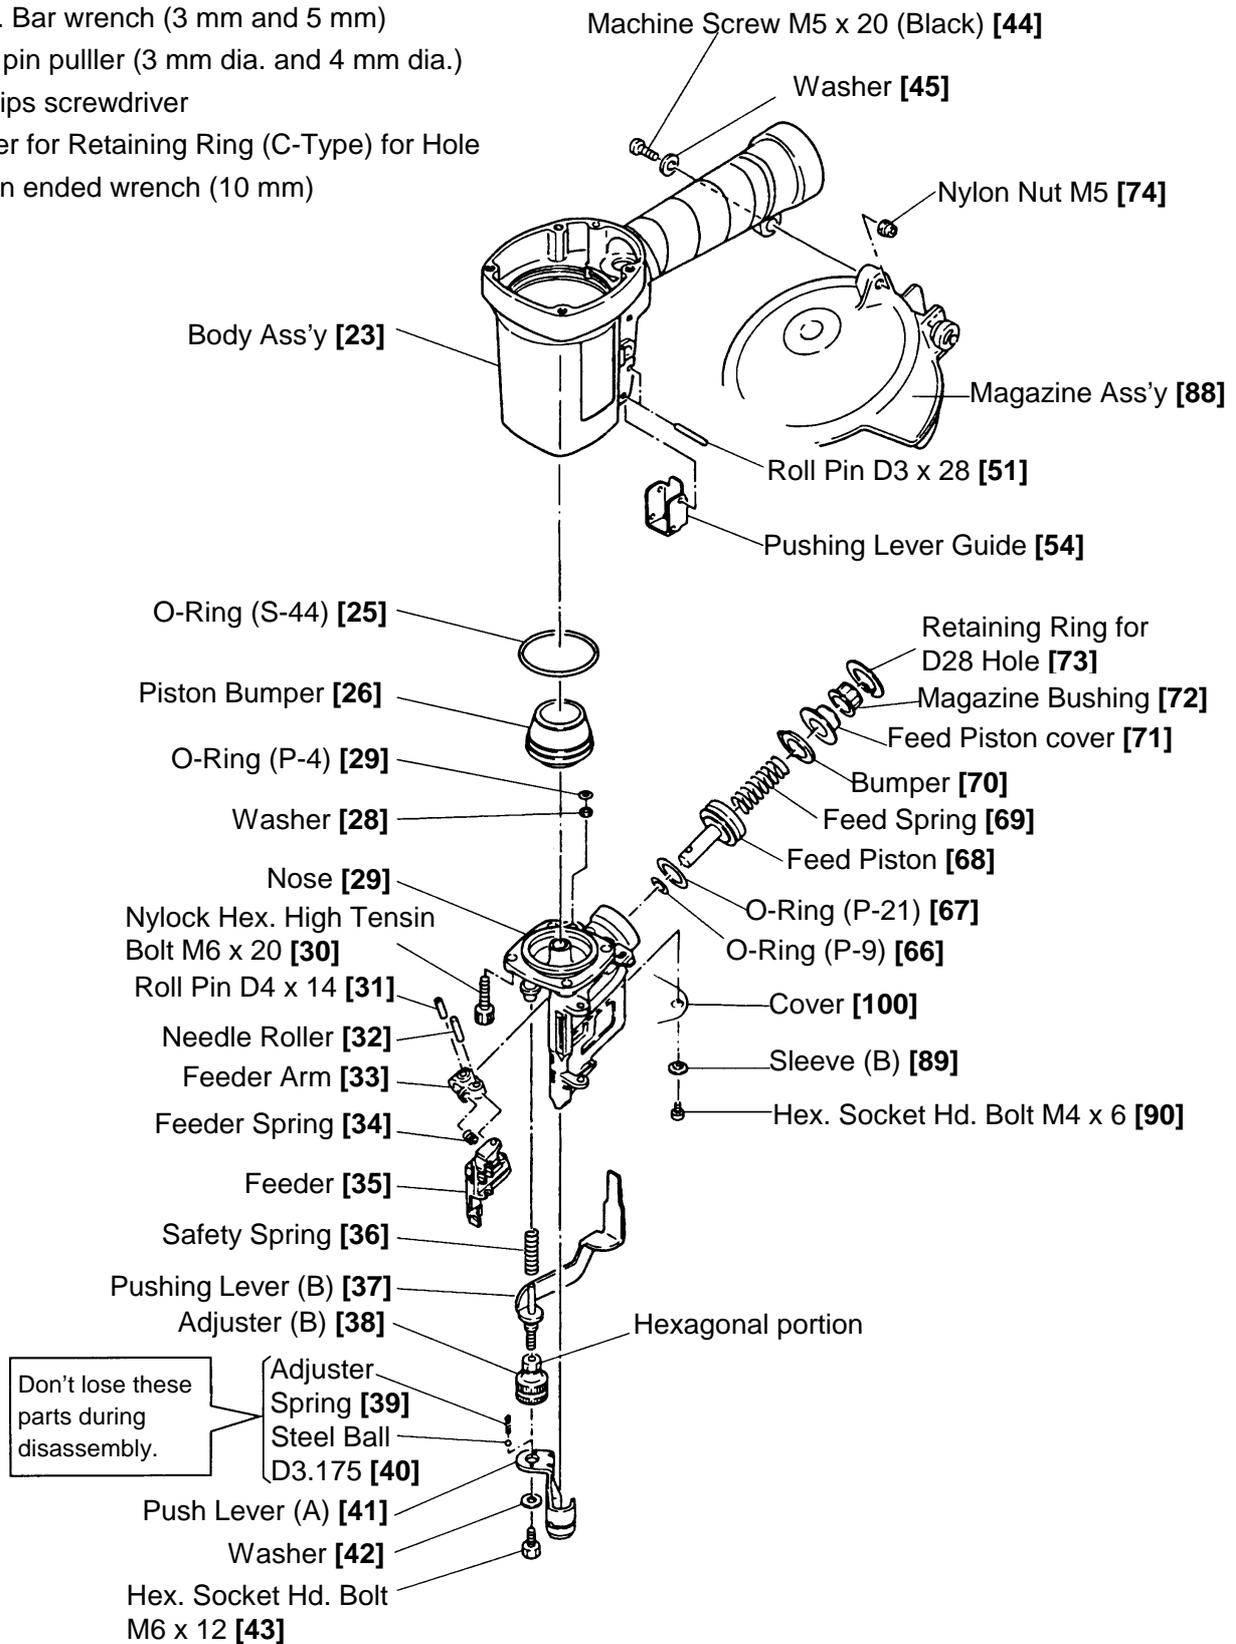

Fig. 20 Disassembly and reassembly of the driving section
1-4. Disassembly and Reassembly of the Driving Section (See Fig. 20)
(1) Disassembly and Reassembly of the Nose [29], Pushing Levers (A) [41], and (B) [37], etc. (See Fig. 20)
(See Fig. 20)